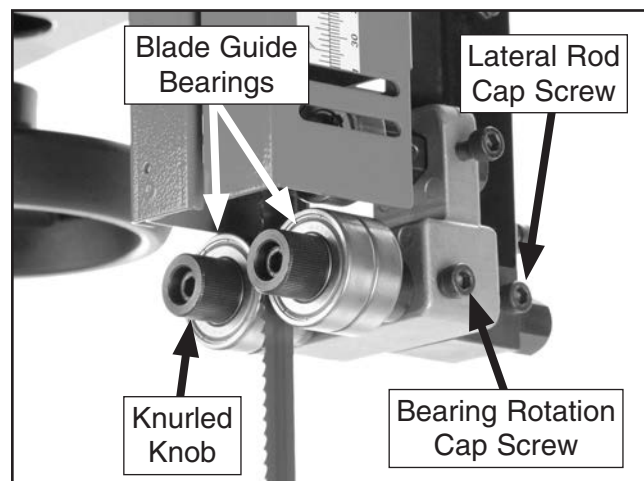

Figure 54. Blade guide controls.
2. Familiarize yourself with the blade guide controls shown in **Figure 54**.